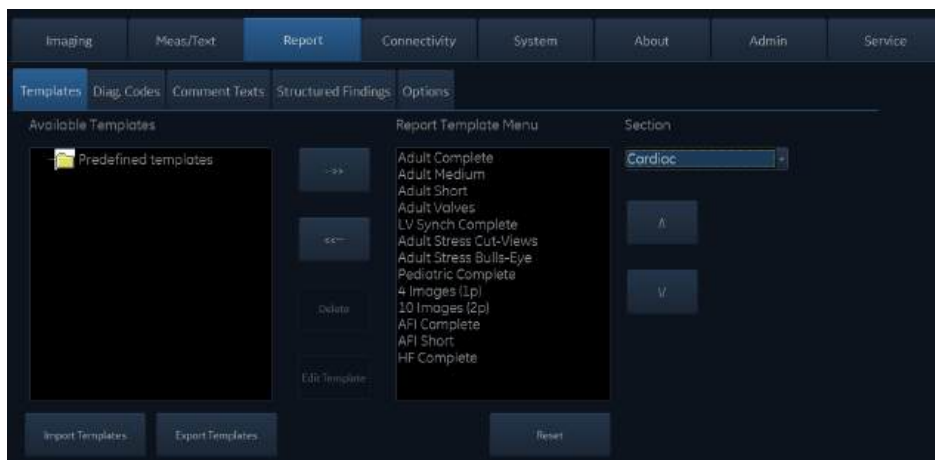

Figure 11-25. The Report templates sheet
The *Report templates* sheet is displayed (Figure 11-25)
1. In the *Available templates* field (left field), select the report to delete (Figure 11-25).
The *Report templates* sheet is displayed (Figure 11-25 on page 11-50).